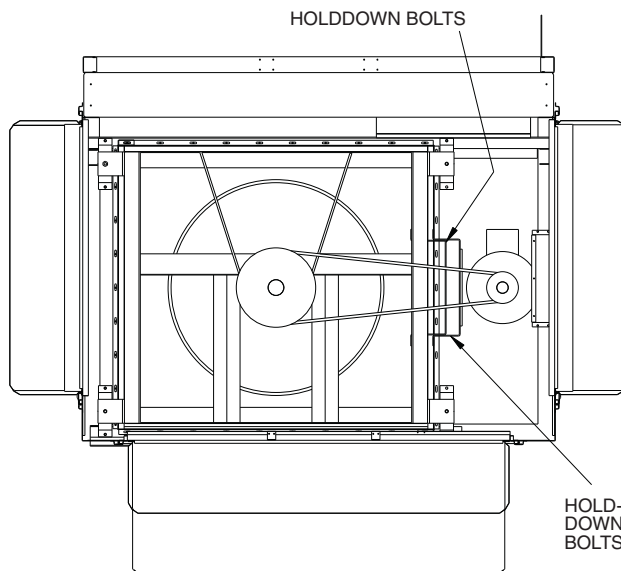

Fig. 50 — Return Fan Motor Plate Adjustment
1. Loosen holddown bolts. (See Fig. 50).